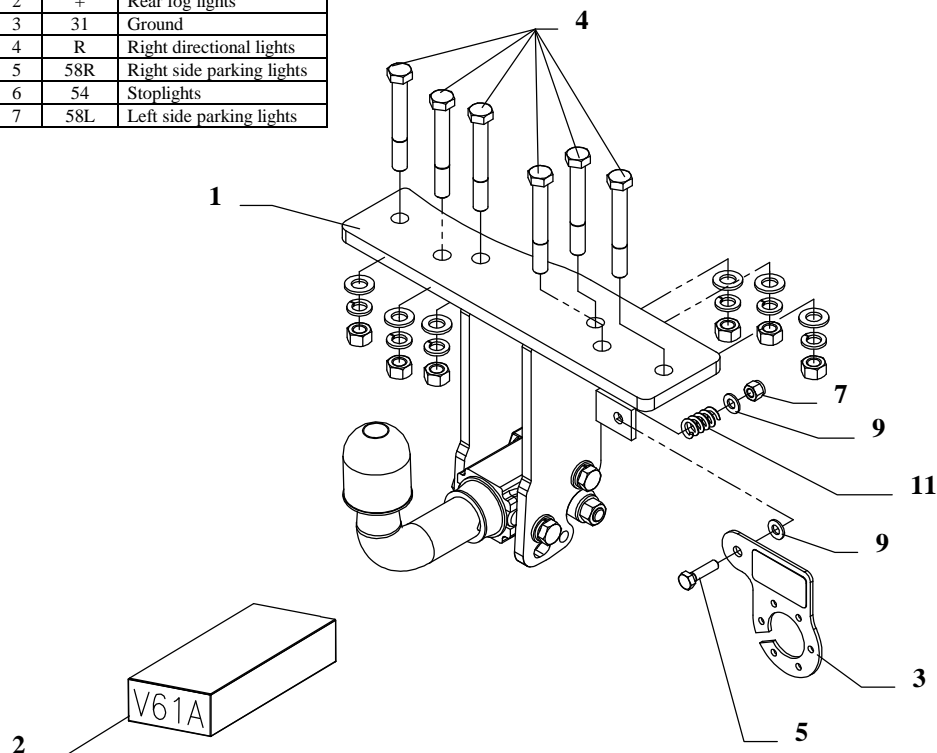

Fig. 1
7. Fix the socket plate (pos. 3) as shown on the fig. 1.